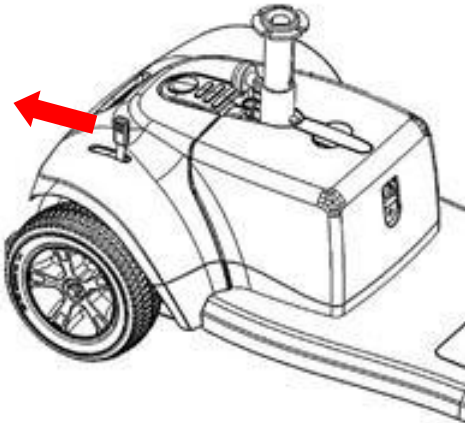

Fig 6.7.1 Drive Mode (Closed)
1. Drive position - is indicated by 'Closed' - pull the lever backwards for this position. (Fig 6.7.1)